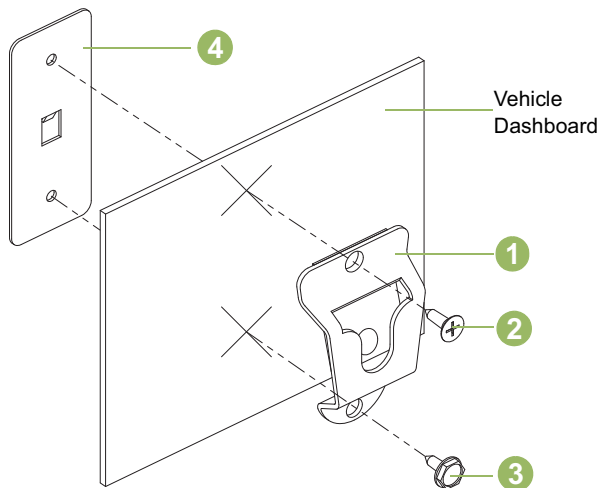

Figure 5.2: Installing the Mounting Bracket
Refer to Figure 5.2 below and attach hang-up clip (1) to vehicle using two sheet metal screws and back-up plate provided. Place back-up plate (4) behind dashboard. Use flat-head screw (2) in top mounting hole and hex-washer screw (3) in bottom mounting hole. Be certain mounting screws fasten into holes in back-up plate.